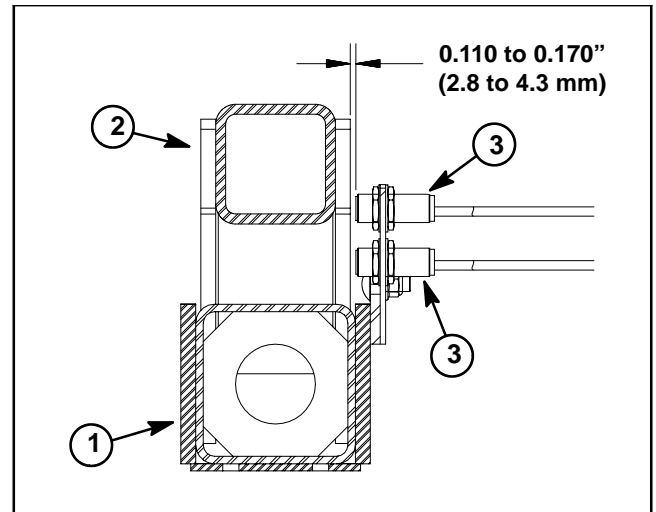

Figure 2
2. The target surface end of proximity switch should be from 0.110" to 0.170" (2.8 to 4.3 mm) from sensing plate on sweeper (Figs. 2 and 3).